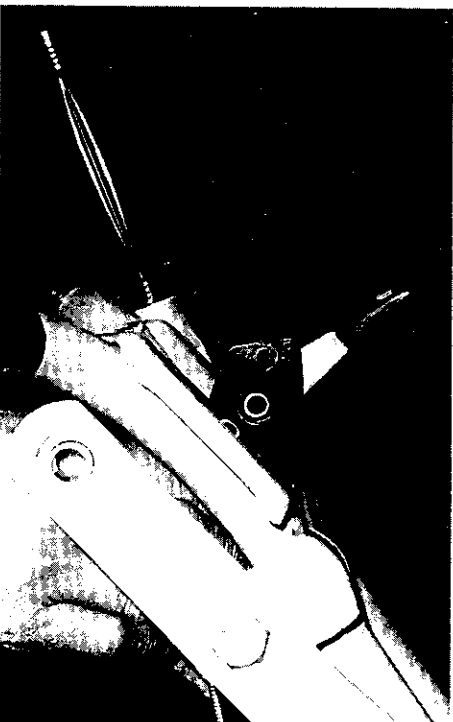

FIGURE 10
5. See Fig. 10: Push entire knob and control body through the panel slot from the back as shown.